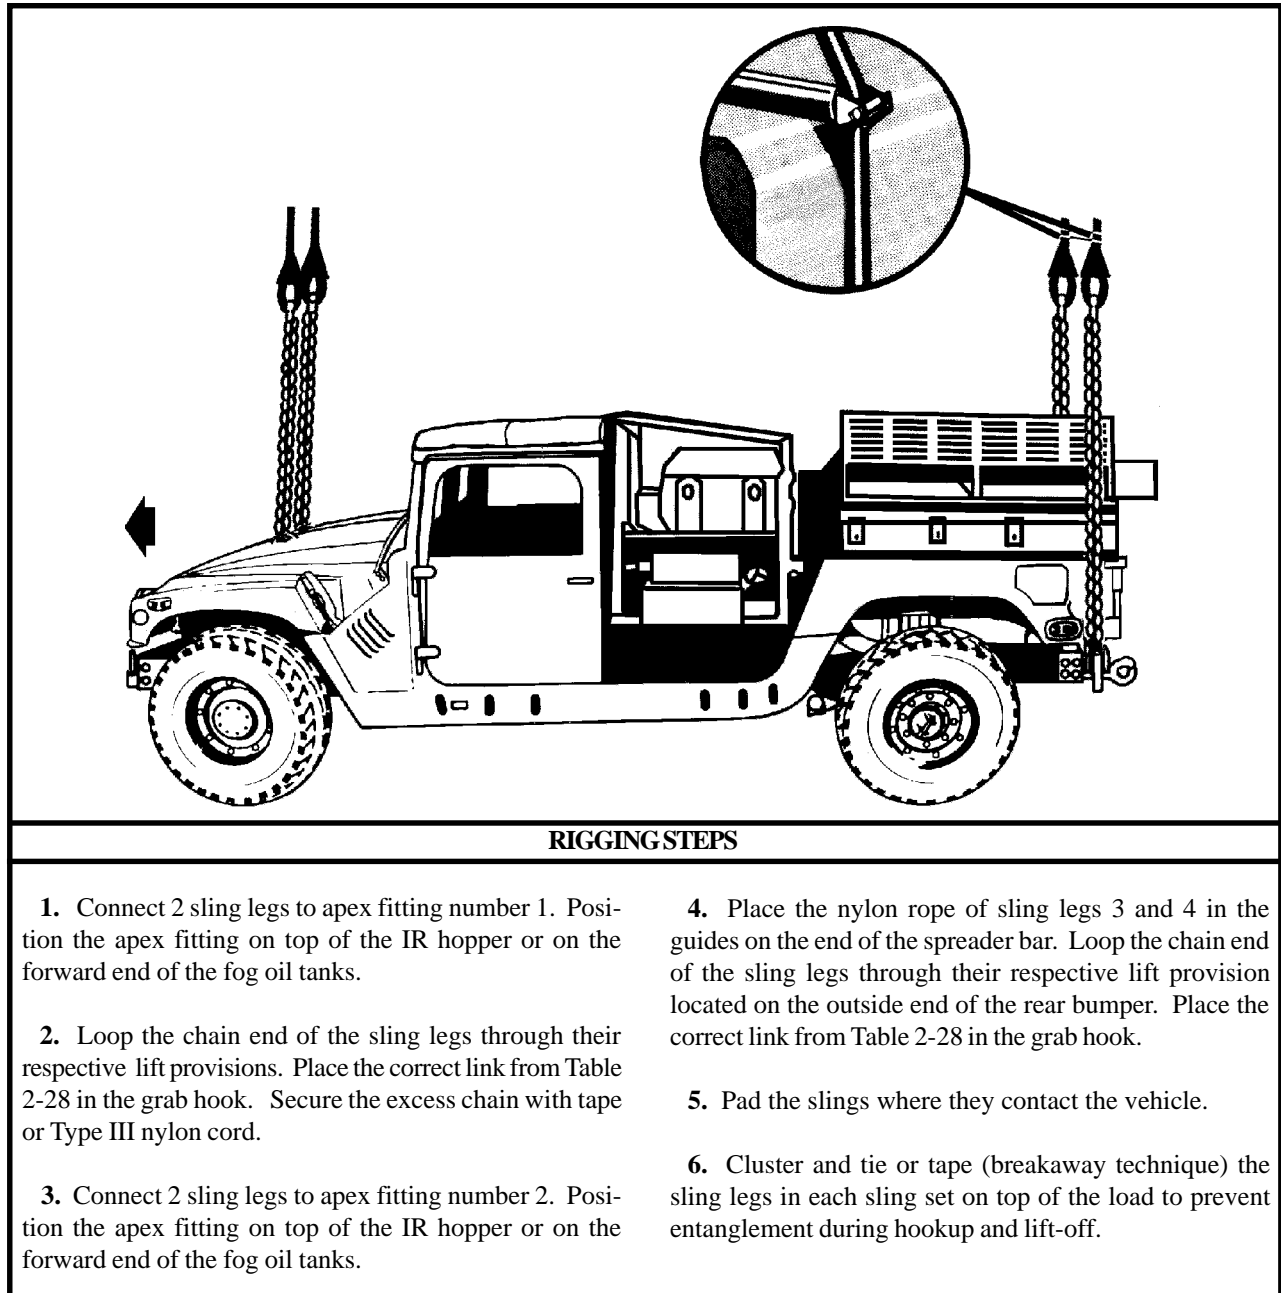

Figure 2-27. M56 Smoke Generating System on M1113
(2) **Rigging.** Rig the load according to the steps in Figure 2-27.